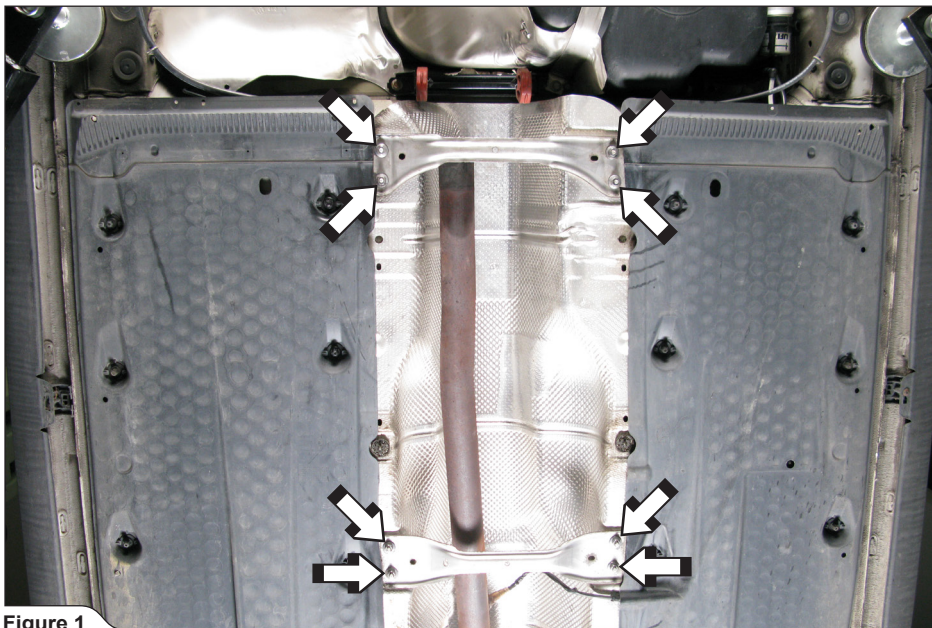

Figure 1
1. Unscrew the marked nuts and remove the two chassis reinforcements (Figure 1).